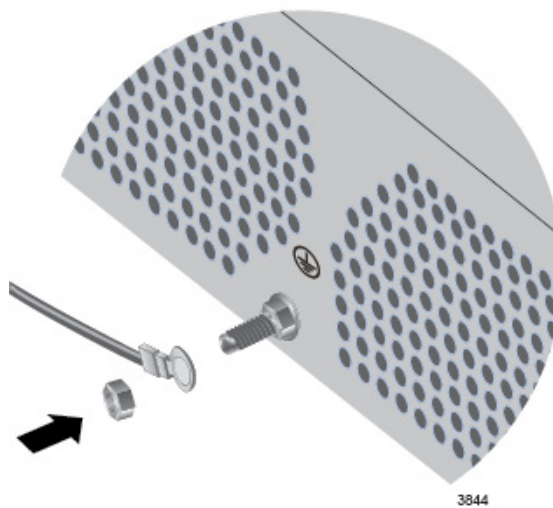

Figure 26. Installing the Grounding Wire
4. Attach the grounding lug and wire to the grounding post and secure them with the nut removed in Step 3 and a 7mm wrench. Allied Telesis recommends tightening the nut to 15 in-lbs. Refer to Figure 26.